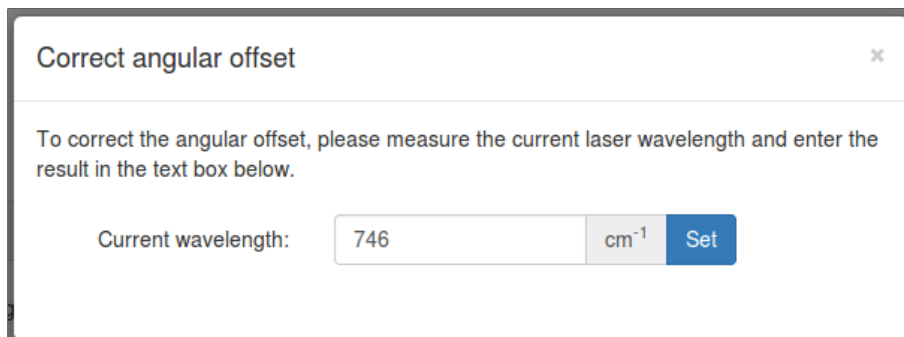

Figure 7.9.: Offset correction input screen.
*angular offset* and enter the measured wavelength value for the current settings in the dialog window (see Fig. 7.9). The software will calculate the corresponding angular offset and correct accordingly.